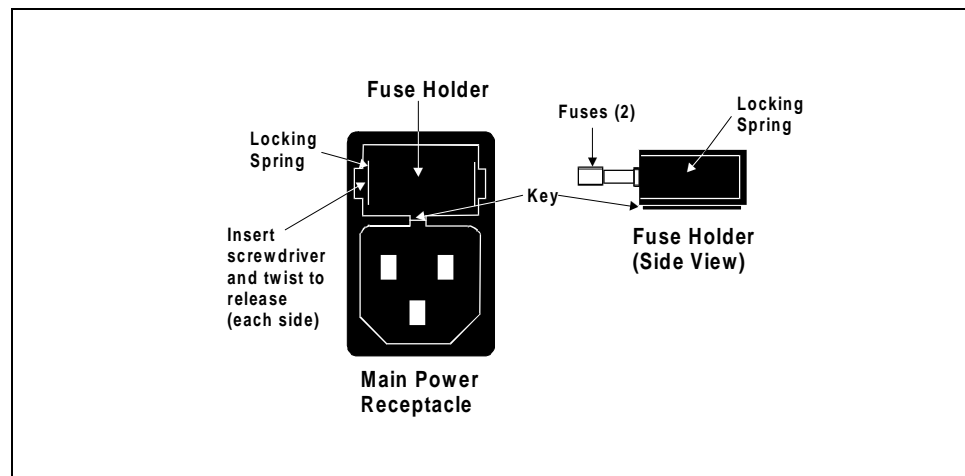

Figure 5-5. Main Power Fuse Holder
2. The fuse holder is part of the main power receptacle on the rear panel. A recessed lock is located on each side of the fuse holder (see Figure 5-5). Using a small screwdriver or your fingernails, push each lock toward the center to release it and then pull the fuse holder straight out of its compartment.